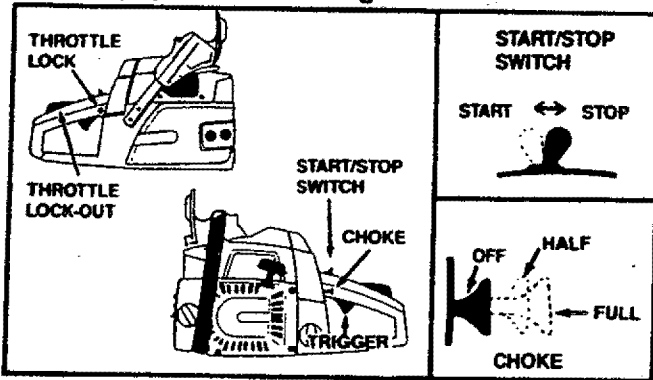

Figure 14
Understanding the control devices on your saw is an important part of learning how to properly and safely operate the unit. Figure 14.
- Push down on the throttle lock-out, then squeeze the trigger. Press and hold down the throttle lock, then slowly release the trigger. Figure 14. When the trigger is released, the throttle lock is engaged.
- Stop engine by moving the ignition switch to the "STOP" position (Figure 14).
- Pull choke to full choke position. Figure 14.
- Push choke to the half position. Figure 14.
- After 5 second warm up, push choke to the off position. Figure 14.
- Leave choke at the off position. Figure 14.
- Push choke to the off position. Figure 14.